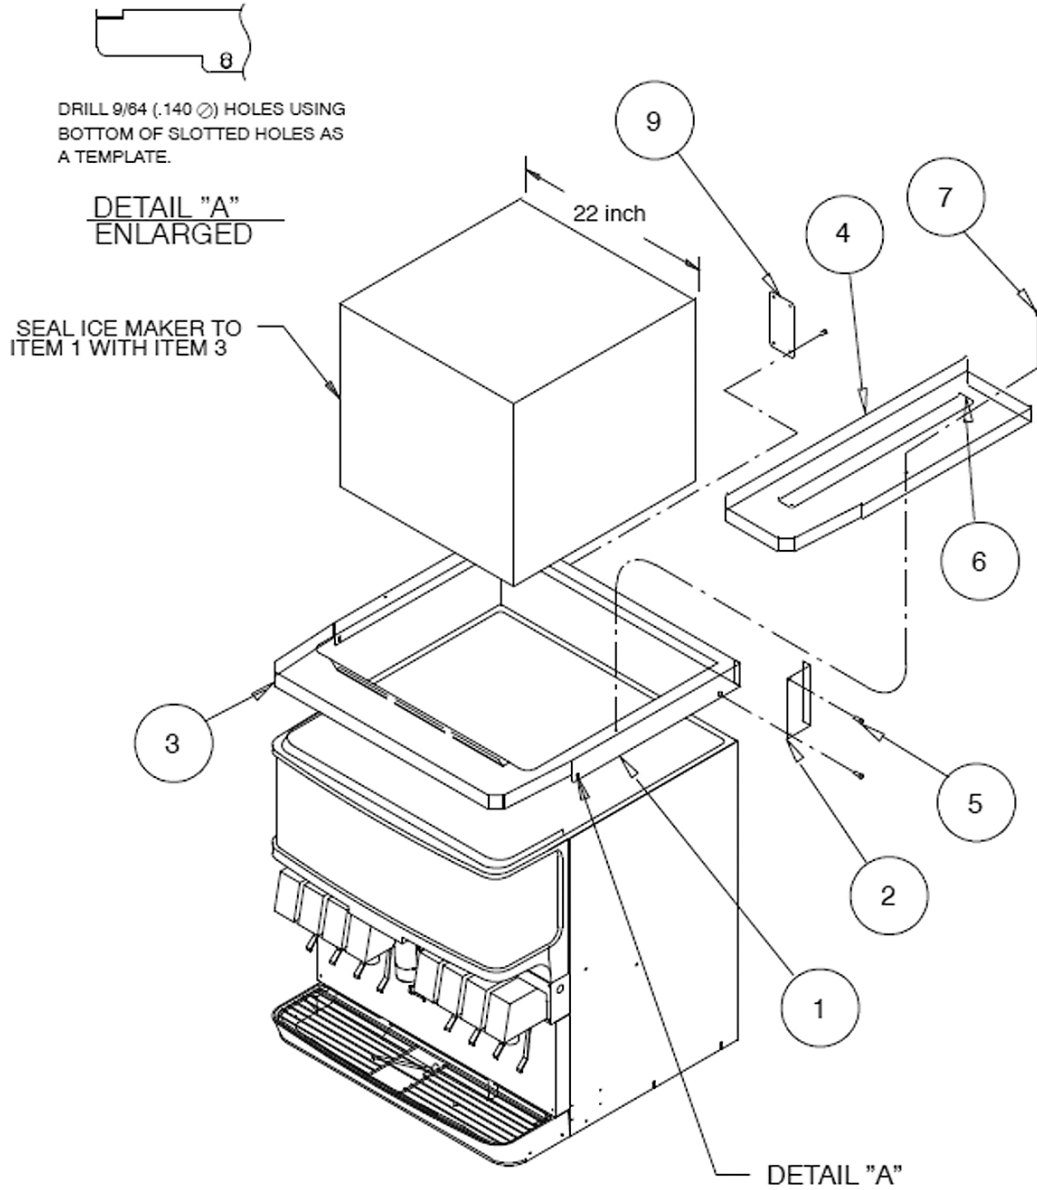

Figure 1.
2. Using the slotted holes in the lid as a template, drill four (4) 0.140" diameter holes at the bottom of the slots (see Detail A, Figure 1). Use extreme care not to drill into the hopper. Fasten the lid to the dispenser with four (4) #8 sheet metal screws, two on each side.
4. Remove the two rear screws (only) installed in step 2. Use those screws to install the mounting brackets (item 2 and/or item 9). Drill 9/64" diameter holes into the ice maker cabinet using the bracket as a template. Use extreme caution not to drill into any ice maker components (condenser, tubing, etc.). Secure the brackets using the screws provided.